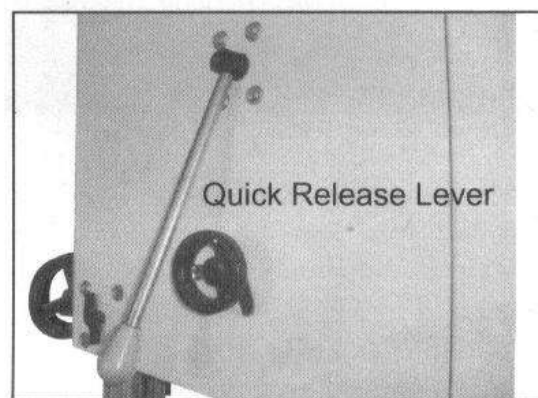

Fig.14
c) Release the blade tension by rotating the quick release lever (Fig.14) clockwise.
f) Re-tension the new blade by rotating the quick release lever (Fig.14) counterclockwise and check the blade tracking. The blade should turn in the center of the bandwheel. Refer to "Tracking the Saw Blade" on page 6 for more details.